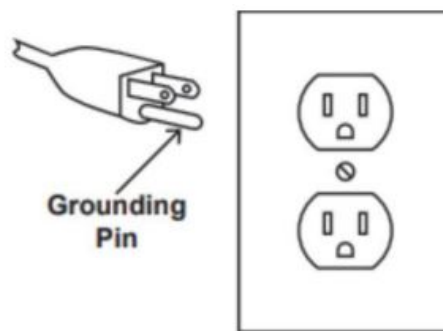
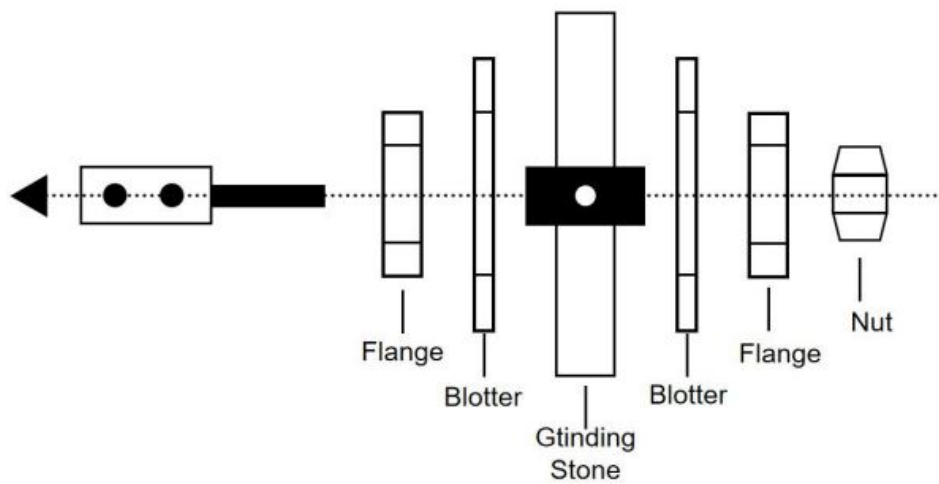

Figure 1
Figure 2 WM-5 Assemble all components in proper sequence
Refer to Figure 1 and Figure 2 for the proper assembly sequence. Assemble all components correctly.
- Never use a buff, brush, abrasive wheel, or any other accessory that is not rated for at least 77500 rpm, and never use one that appears to wobble or vibrate. It could damage the buffer and cause injury to you. Buffs over 4" in diameter should not be used on the bench buffer. Never use a grinding wheel over 2" diameter. Please refer to Figure 2 for the proper mounting procedure for wheels or brushes on the WM-4 (WM-3) mandrel.